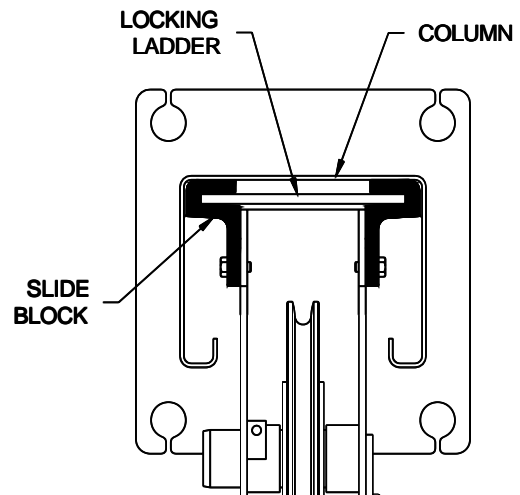

Fig 9 – Locking Ladder Orientation
- 16) Raise the locking ladder, push the column against the slide blocks, and lower the ladder into the slide blocks, Fig 9.